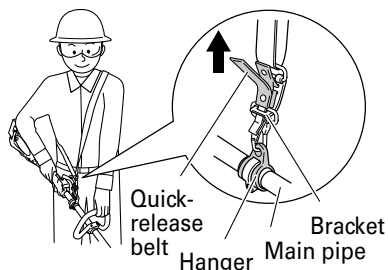

Fig. 12
- (1) Place the shoulder belt on the shoulder as shown in Fig. 12 and engage it with the hanger on the gardening appliance. Adjust the shoulder belt to suitable length.
- (2) To remove the gardening appliance from the shoulder belt, support the gardening appliance by holding the main pipe with one hand and use the other hand to pull the quick-release belt as shown in Fig. 12 to free it from the bracket.